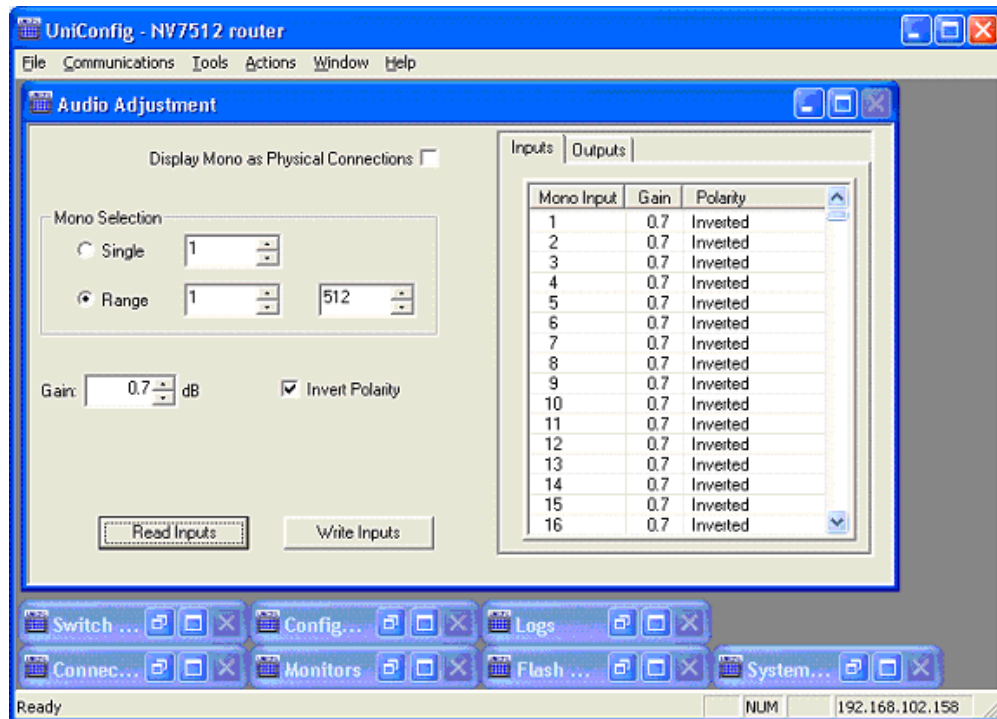

Figure 3-4. Input Gain Values in UniConfig Audio Adjustment Window
- From the menu bar, select 'Window > Audio Adjustment'. The 'Audio Adjustment' window appears, as shown in Figure 3-4.